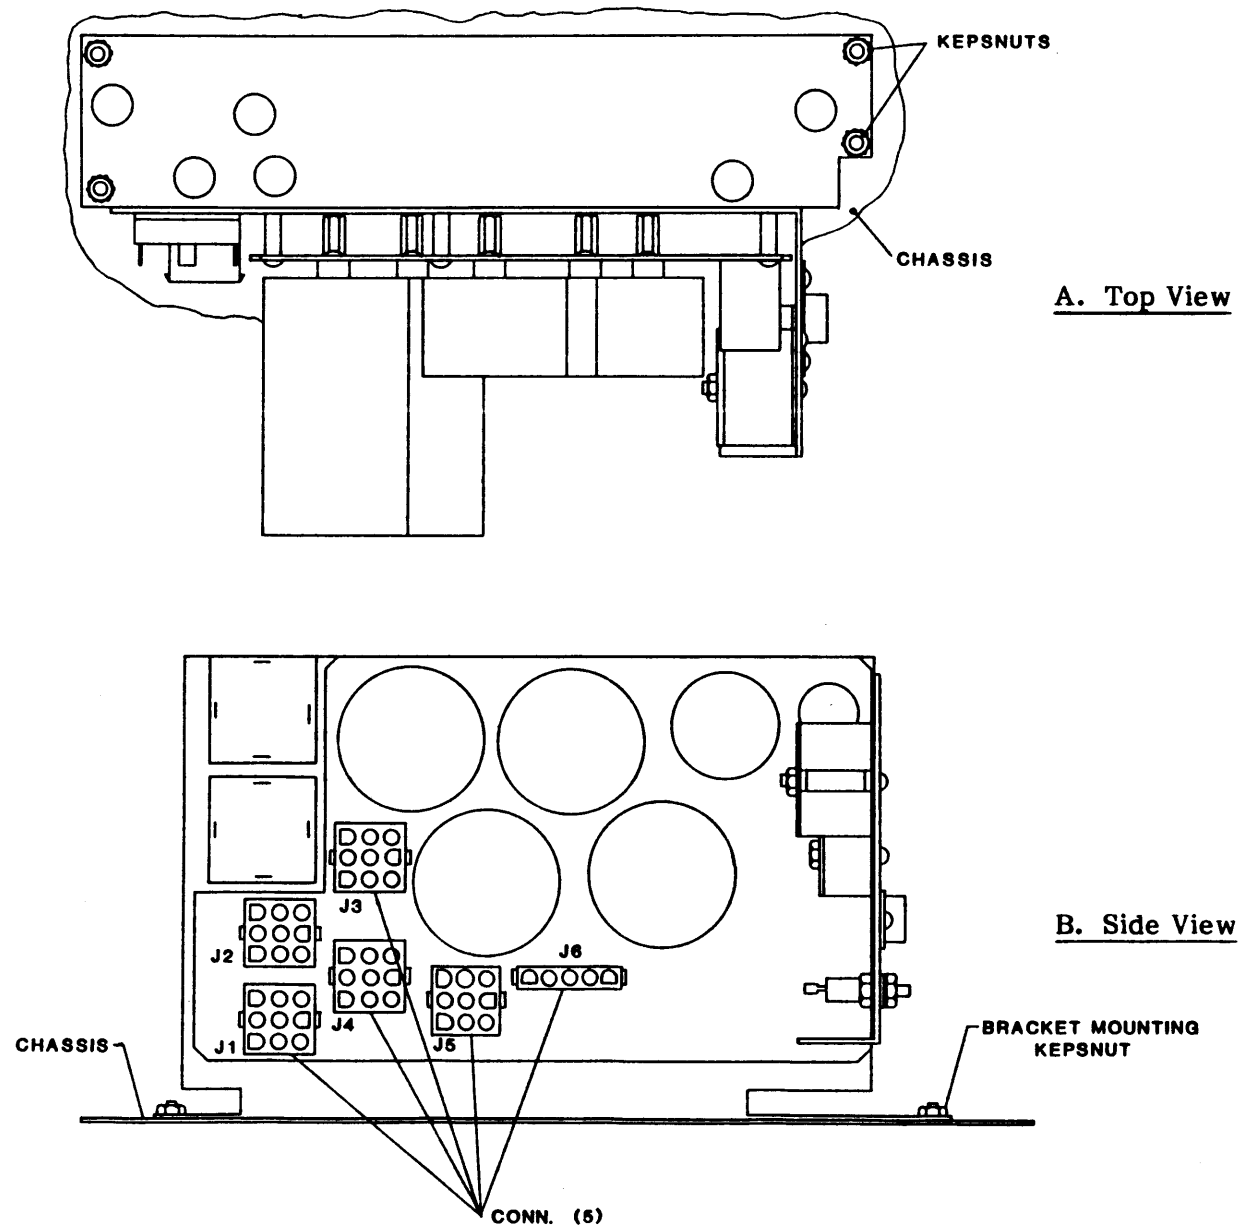

Figure 5-15. 5-VDC Regulator Power Supply
5.3.19 5-VDC REGULATOR POWER SUPPLY (Figure 5-15)
- B. Unplug the five connectors indicated in Figure 5-15 from the Power Supply.